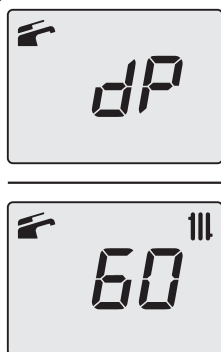

Figure 9.26
- Press button 14 (Figure 9.20) again to vary the output in chimney sweep mode: when the LCD displays the letters **dP** that alternate with the temperature of the heating water (e.g. **60**), the "chimney sweep function" is at maximum output in domestic hot water mode (Figure 9.26);